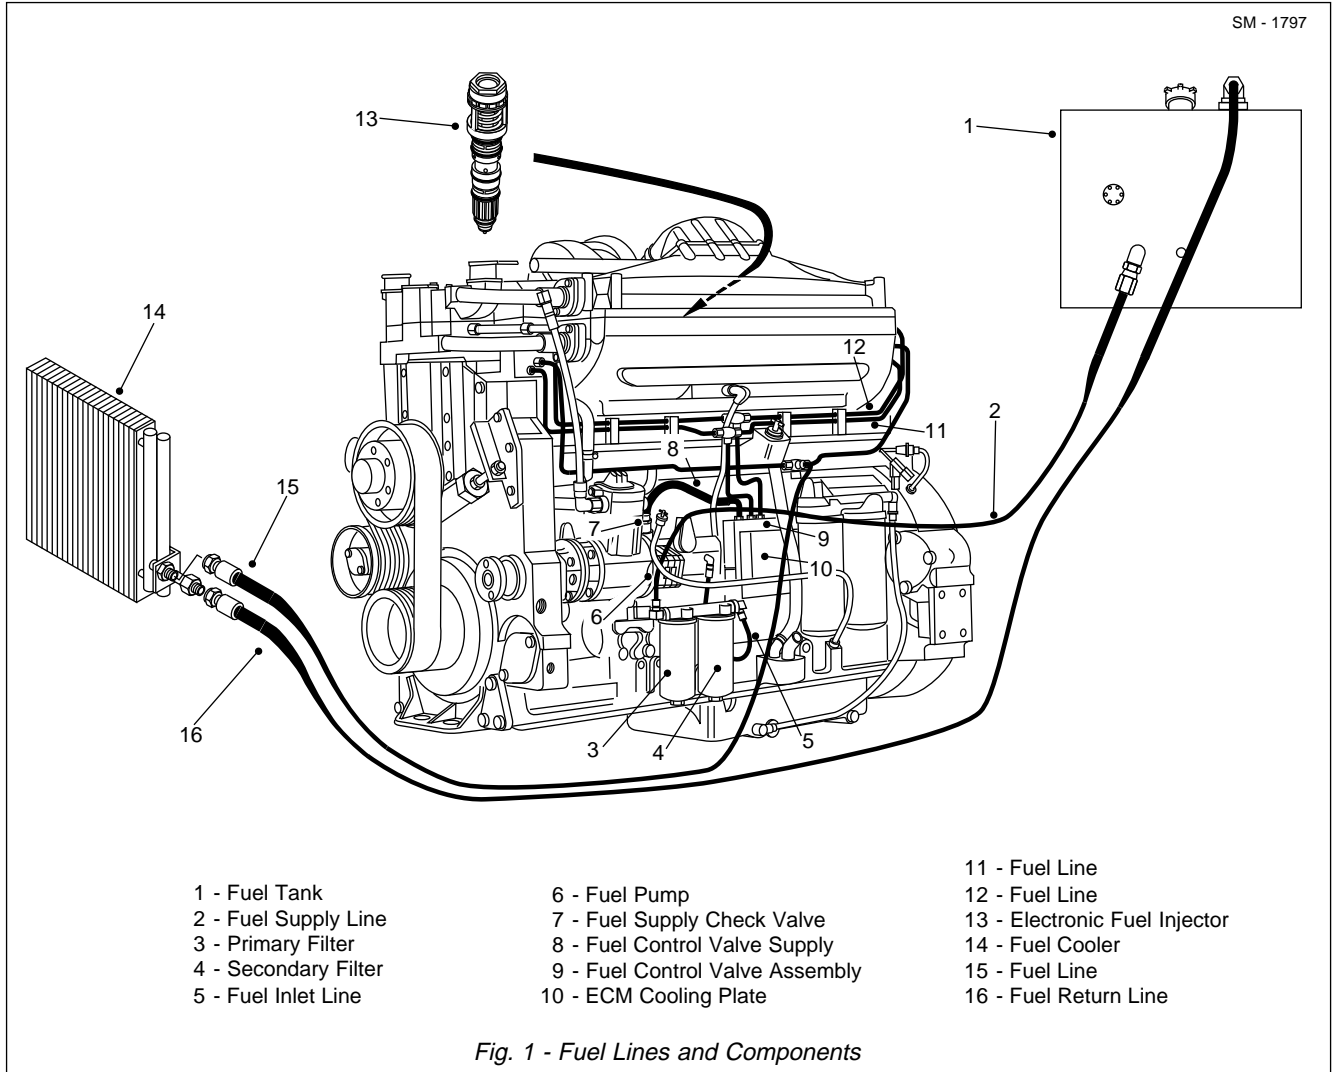

Fig. 1 - Fuel Lines and Components
Numbers in parentheses refer to Fig. 1.
1. If removed, install mounting brackets (17 & 21) to chassis mounting brackets and secure with bolts (20), lockwashers (22) and nuts (16).
2. If removed, install heavy duty straps (18) to top of mounting brackets (17 & 21) with overlap facils inside, as shown in Fig. 1, and secure with nuts (19). Swing heavy duty straps (18) clear of mounting area on mounting brackets (17 & 21).
3. Using suitable lifting equipment, position fuel tank (1) assembly on mounting brackets (17 & 21) and locate heavy duty straps (18) through mounting holes in lower end of mounting brackets (17 & 21). Secure heavy duty straps (18) to mounting brackets (17 & 21) with nuts (19).
4. Remove blanking caps from fuel lines and connect fuel lines to fuel tank (1) as identified at removal. Tighten fuel lines securely.
5. Connect electrical connections to fuel level sender (27) and install cover (29) over fuel level sender (27).
6. Remove filler cap (5) assembly from filler neck on fuel tank (1) and fill fuel tank (1) with fuel specified in Section 300-0020, LUBRICATION SYSTEM. Ensure vent hole in filler cap (5) is clear and install filler cap (5) assembly on filler neck. Tighten filler cap (5) securely.
7. Secure filler cap (5) on the filler neck with latch (8) and padlock (24).
A fast fuel system can be installed in the fuel tank as an option. It involves replacing cover plate (14, Fig. 1) with a flange and nipple receiver (1) and plug (2, Fig. 1) with diesel fuelling vent (2). Receiver (1) is located near the bottom of the tank for bottom filling which helps eliminate foaming that occurs during the traditional 'splash fill' method at the top of the tank.